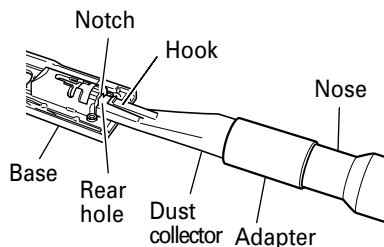

Fig. 24
- (6) Insert dust collector into the rear hole of the base until the hook catches in the notch. (Fig. 24)
- (7) Press the hook to remove the dust collector.